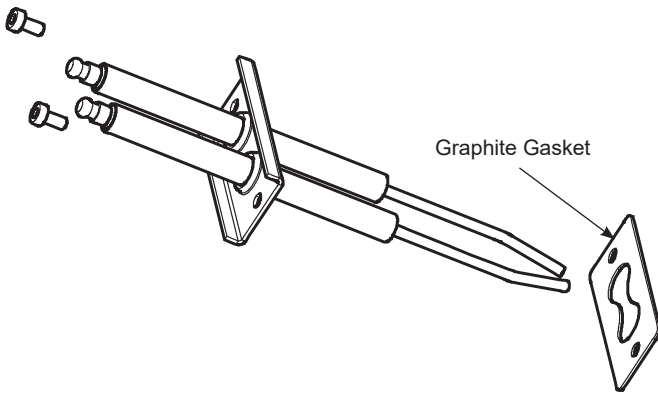

Figure 28: Igniter Electrode Assembly
- Install igniter as shown in Figure 28.